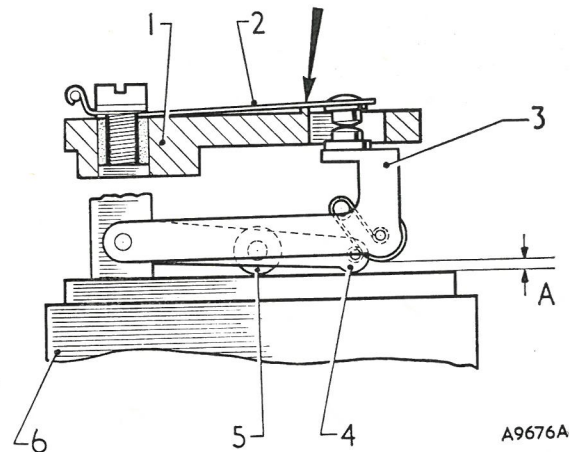

Fig. D.6
- (35) Check the gap between the points indirectly by carefully holding the contact blade against the rib on the pedestal, without pressing against the tip (Fig. D.6), then check if a .030 in. (.8 mm.) feeler will pass between the fibre rollers and the face of the coil housing. If necessary, the tip of the blade can be set to correct the gap.